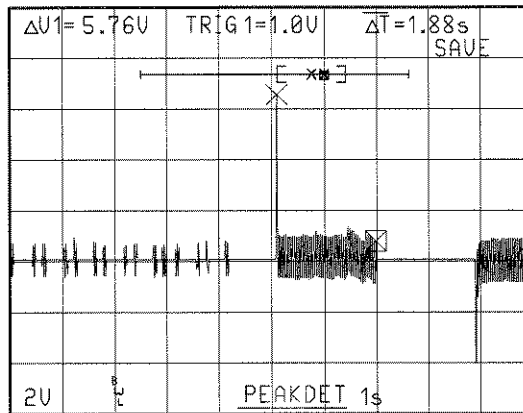

Figure 3-13: 4K Acquisition, 1K Window
- Step 1:** Go to the **STORE** mode and display the signal in the 4K mode (Figure 3-13).